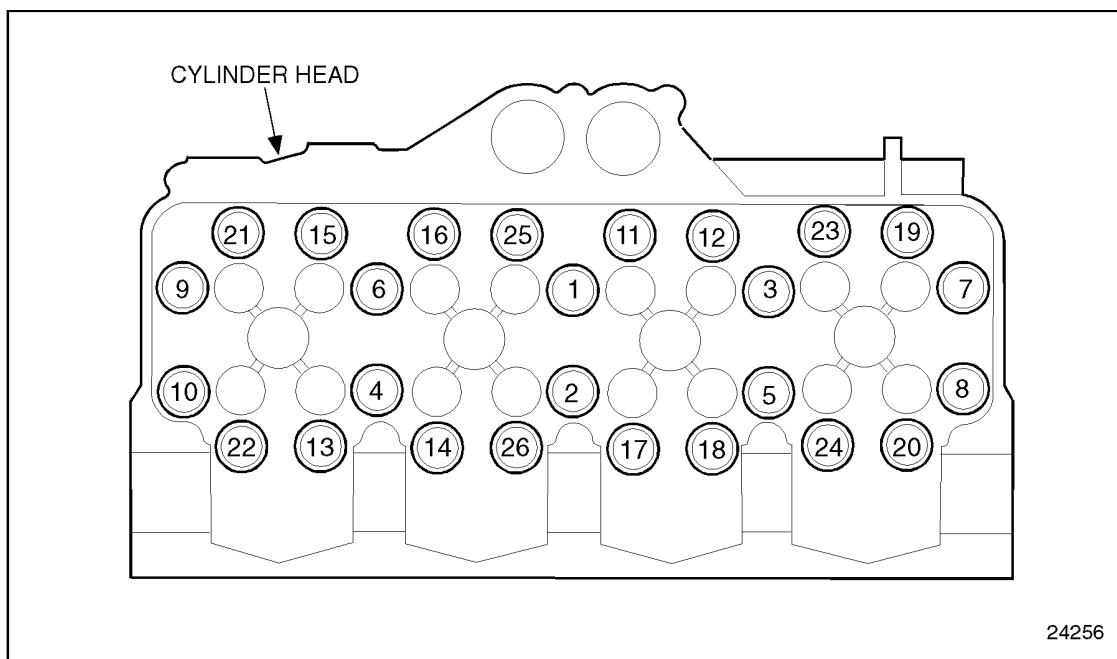
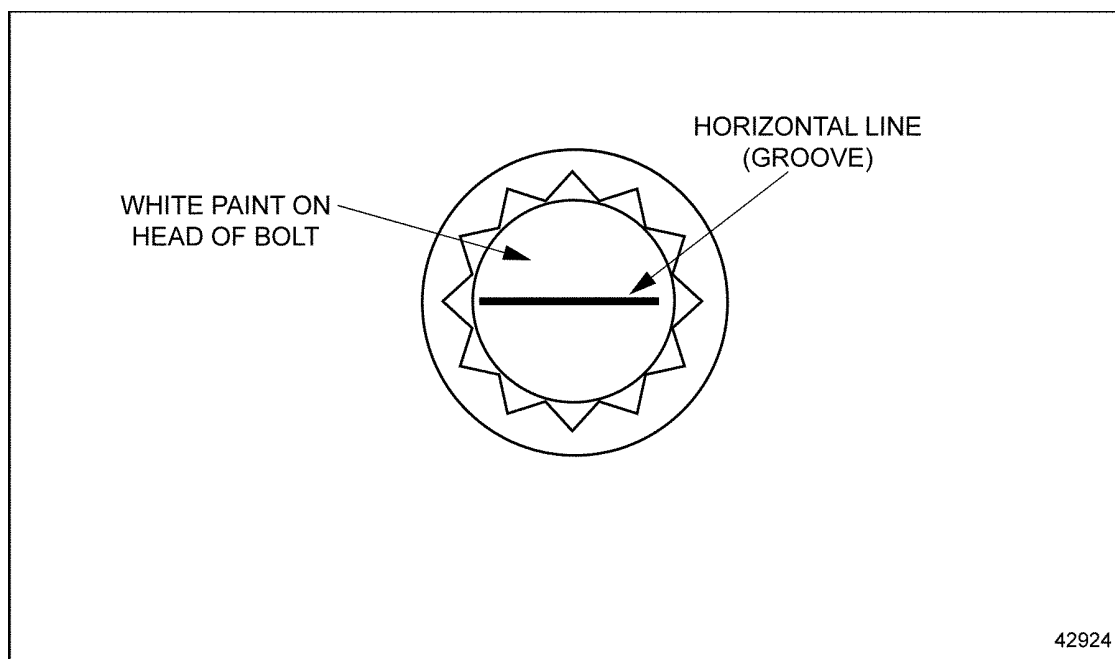

Figure 1-41 **Cylinder Head Bolt Tightening Sequence**
Figure 1-42 Bolt Identification For Series 50 Engines Built After September 2002
6. Torque the head bolts to 250-285 N·m (185-210 lb·ft) in the following sequence. See Figure 1-41. After September 2002 a new cylinder head bolt will be used for all Series 50 engines. The new bolt will be identified with white paint and groove on top of bolt. See Figure 1-42. Torque the new head bolts to 298 N·m (220 lb·ft). There is no change to the procedure other than the new torque value. The new head bolt can be used with the former cylinder head gaskets, the former head bolts cannot be used with the new head gasket. Former and new bolts must not be mixed.